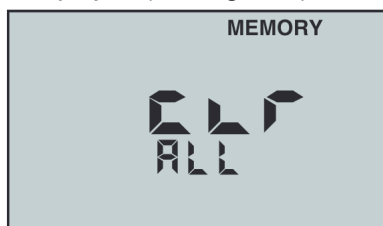

Figure 7
6. To clear **all** records: After pressing  $\left(\frac{\text{MR}}{\nabla}\right)$ , scroll down. “**CLR ALL**” will be displayed (see Figure 7).